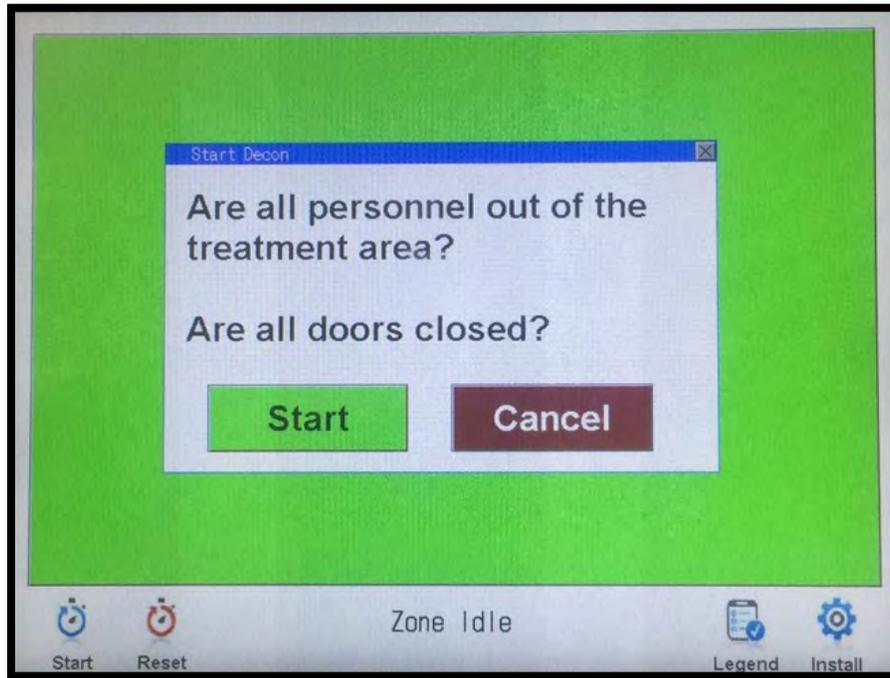

FIGURE 2
4.2.6 Upon initial activation a safety prompt will appear (Figure 2).